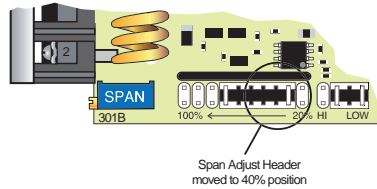

Figure 9 – Span Adjust Header Adjustment
- 2) The next adjustment is the fine range setting. Set the span adjust header to the 40% position (See Figure 9).